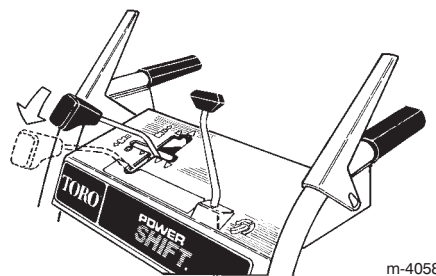

Figure 11
8. Manually move the wheels to the **rear** Power Shift position by lifting up on the handgrips and moving the shift control fully forward (Fig. 11).